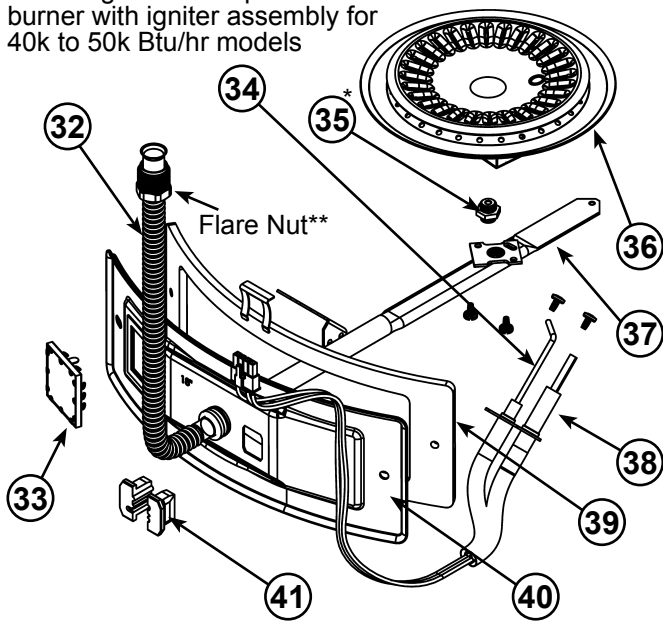

Figure 59
14. Manifold Door Assembly (behind outer door) (see Figures 59 & 60)
32. Flexible Manifold Tube (see Figures 59 & 60)
33. Viewport (see Figures 59 & 60)
34. Flame Sensor Rod (see Figures 59 & 60)
35. Gas Orifice (see Figures 59 & 60)
36. Sheet Metal Burner (see Figures 59 & 60)
37. Gas Manifold (see Figures 59 & 60)
38. Hot-Surface Igniter (see Figures 59 & 60)
39. Manifold Door Gasket (see Figures 59 & 60)
40. Manifold Door (see Figures 59 & 60)
41. Two Piece Grommet With Clip (see Figures 59 & 60)